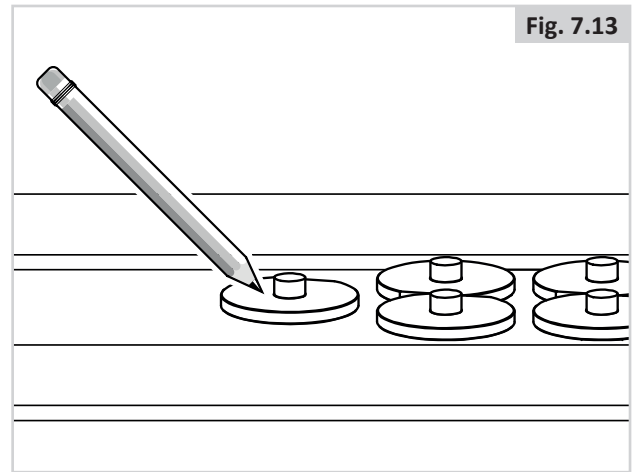

Fig. 7.13
4. Mark where to cut the screws. (Fig. 7.13).